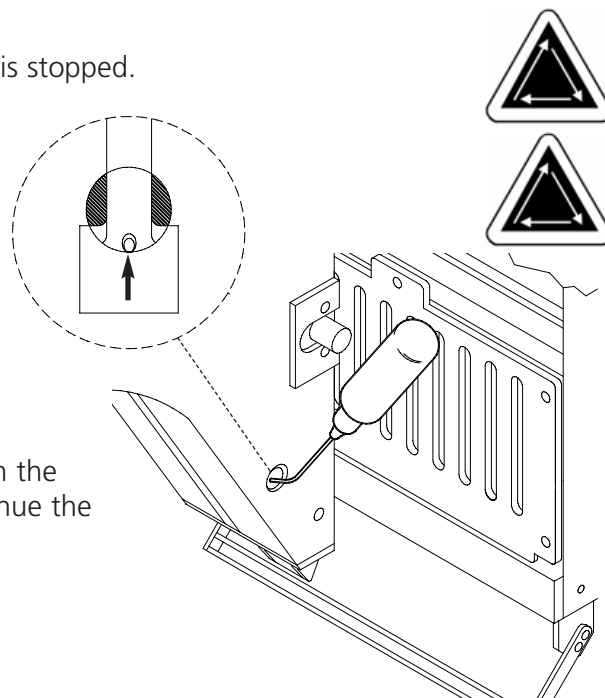

Figure 5-9
2. At the far left end of the machine (head #12), use a small flashlight to look through the red-lined hole. Oil where indicated in Figure 5-9. Repeat for each head.